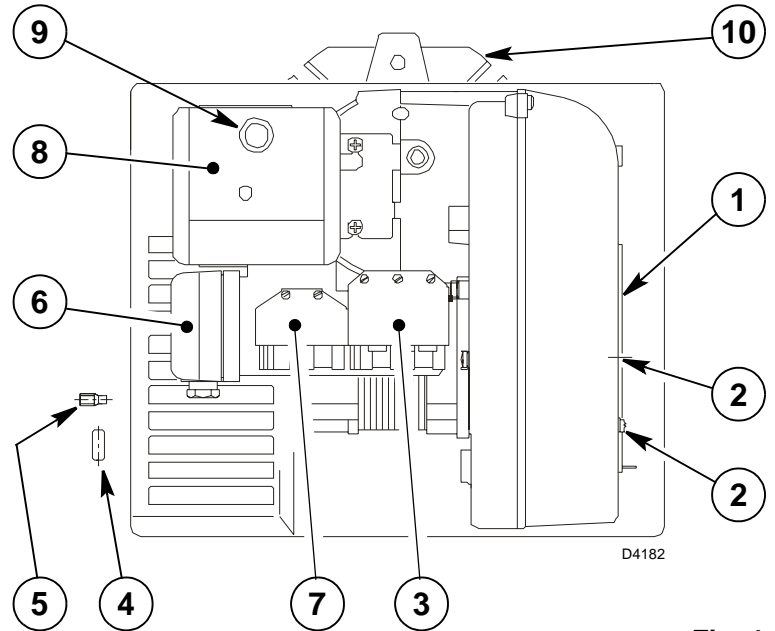

Fig. 1
- The cable grommet (4) Fig. 1 and the screw for fixing the cover (5) supplied with the burner, must be fitted to the same side of the gas train.